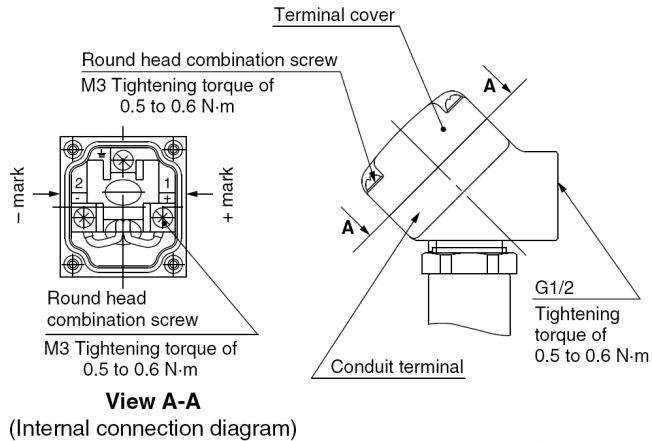

Figure 14
- Make connections according to the marking shown in Figure 14.
- Tighten screws and fittings according to Figure 14.